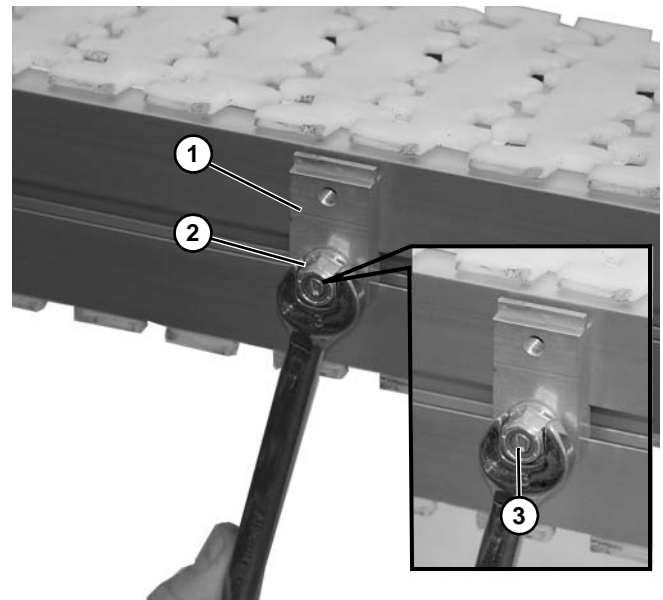

Figure 66
3. Fasten retaining clip (Figure 66, item 1) to conveyor with nut (Figure 66, item 2) on stud.
Be certain that slot (Figure 66, item 3) is close to vertical when finished tightening nut.
4. Tighten nuts (Figure 66, item 2).